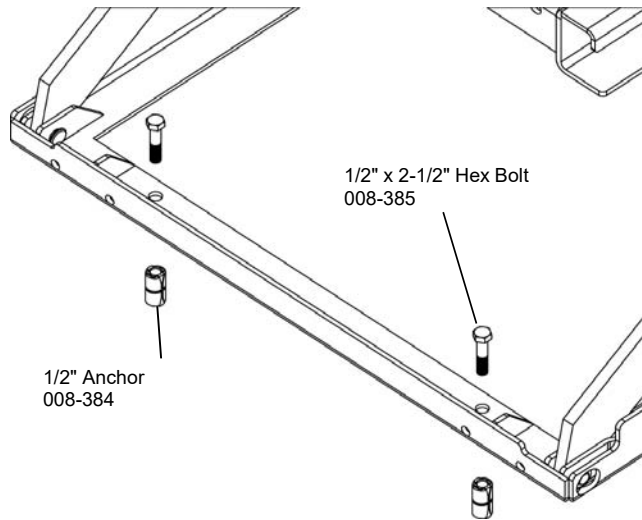

fig.4
Insert the anchors (008-384) into the drilled holes, making sure that the threaded cone end is inserted first (see fig.4).
Return the lift to the desired position and install (4) 1/2" x 2-1/2" hex bolts (008-385) (see fig.4).